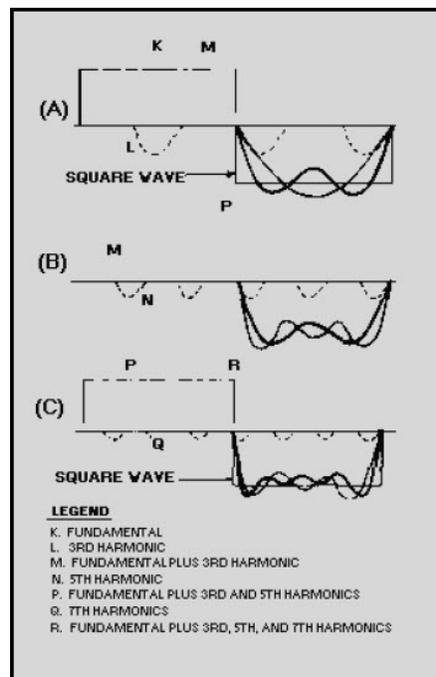

Figure 4-25 Harmonic composition of a square wave
View (A) of figure 4-25 compares a square wave with sine waves. Sine wave K is the same frequency as the square wave (its fundamental frequency). If another sine wave (L) of smaller amplitude but three times the frequency (referred to as the third harmonic) is added to sine wave K, curve M is produced. The addition of these two waveforms is accomplished by adding the instantaneous values of both sine waves algebraically. Curve M is called the resultant. Notice that curve M begins to assume the shape of a square wave. Curve M is shown again in view (B).